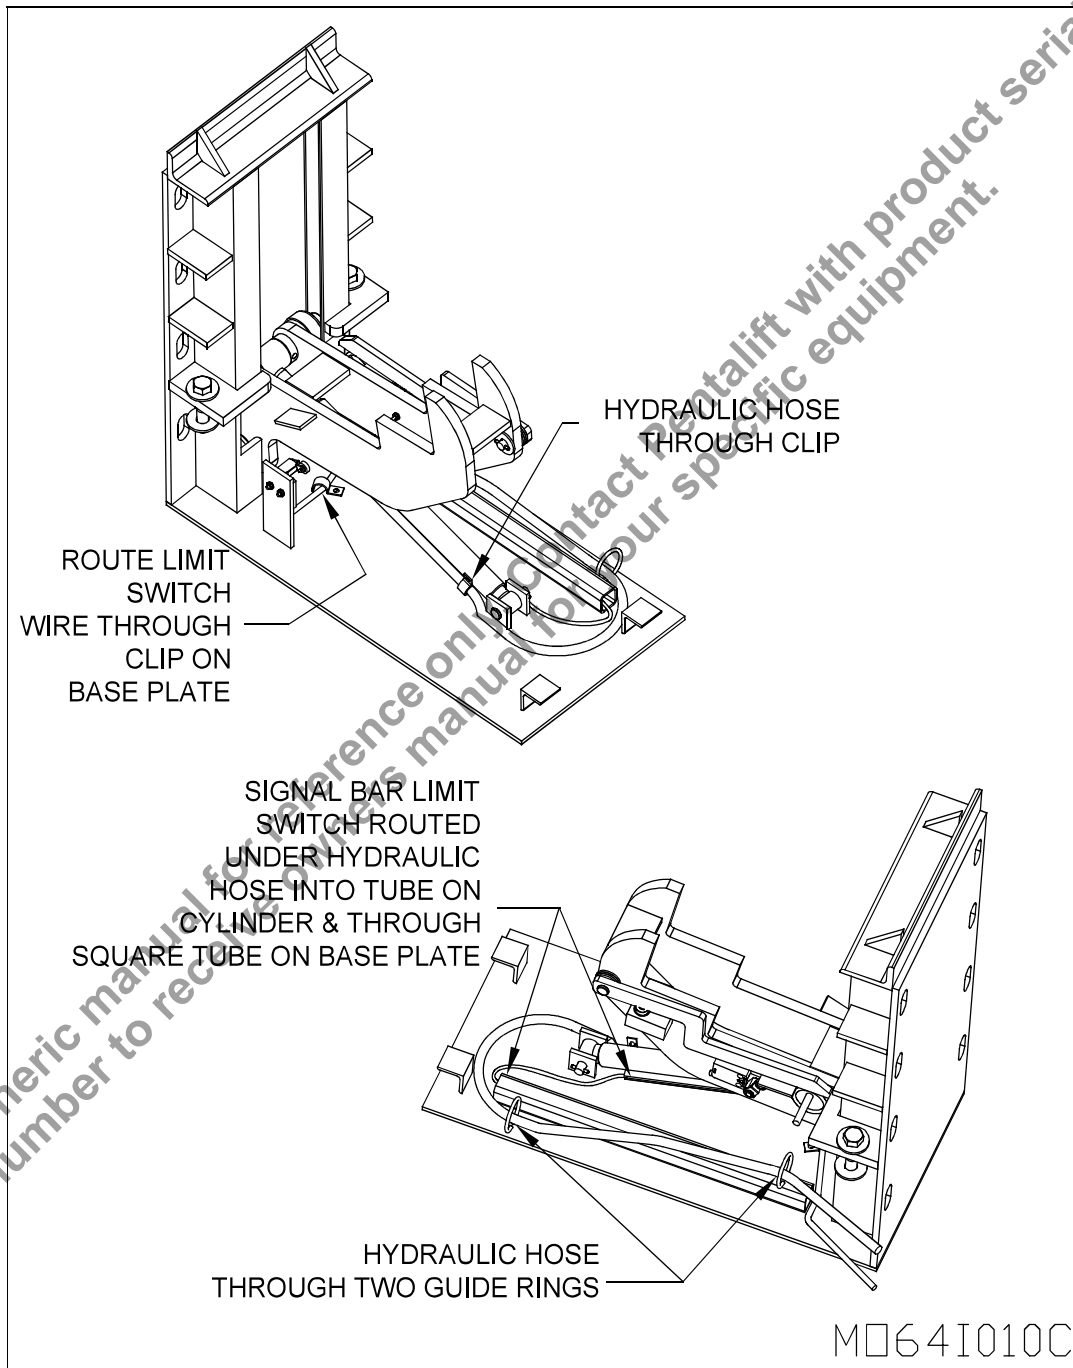

Figure 25: Routing the Limit Switch Wires
2. ___ Run wires from the two limit switches on the vehicle restraint to a waterproof junction box (supplied by others) and connect to the appropriate leads. Ensure the limit switch wire for the signal bar is routed through the tube provided along the side of the hydraulic cylinder and all three limit switch wires go through the tube provided on the base plate of the restraint. Keep the limit switch wire for the signal bar above the hydraulic hose after exiting the tube on the cylinder and before entering the tube on the base plate. See “Figure 25: Routing the Limit Switch Wires” on page 31.